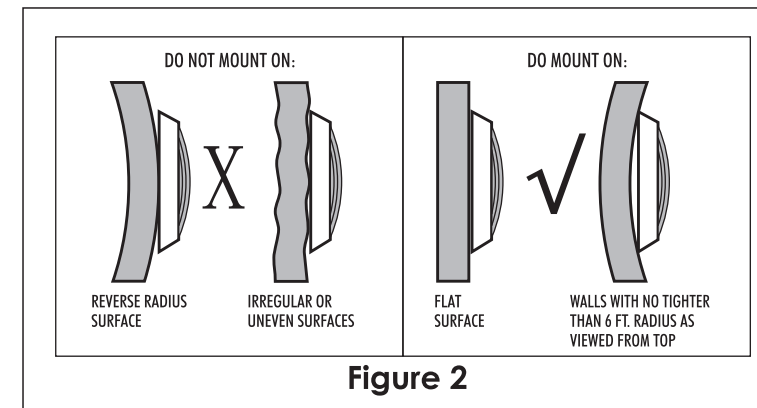

Figure 2
1) Locate position on a vertical wall where light is to be installed. The top of the light lens must be 45.5cm below normal water level, as required by NEC Article 680. The center of the mounting hub will line with the top of light lens. See Figure 2.
- Wrap a length of the cord up to a maximum of 240cm long on the back of the light assembly. Wind a minimum of three (3) wraps of cord so that the last wrap stops at the top of the light. This extra cord allows you to bring the light out of the pool for revamping and serving.